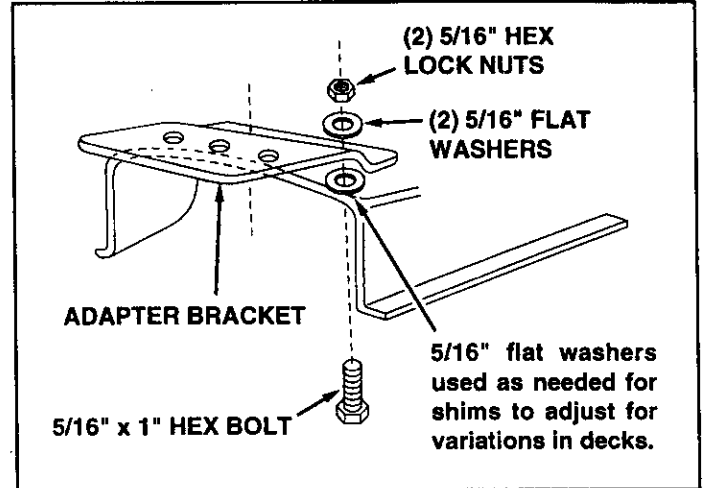

FIGURE 32
- Assemble the adapter bracket to the deck using two 5/16" x 1" hex bolts, 5/16" flat washers and 5/16" hex lock nuts. See figure 32.
NOTE: It may be necessary to use extra 5/16" flat washers to shim under the bracket next to the deck surface. Ten extra washers have been furnished as shims. See figure 32.